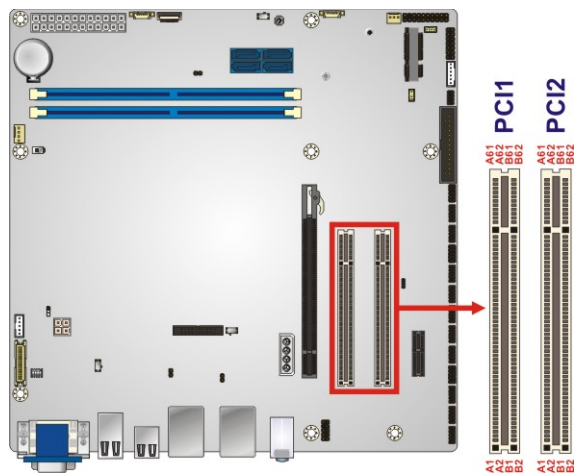

Figure 3-21: PCI Slot Locations
- CN Location: See **Figure 3-21**